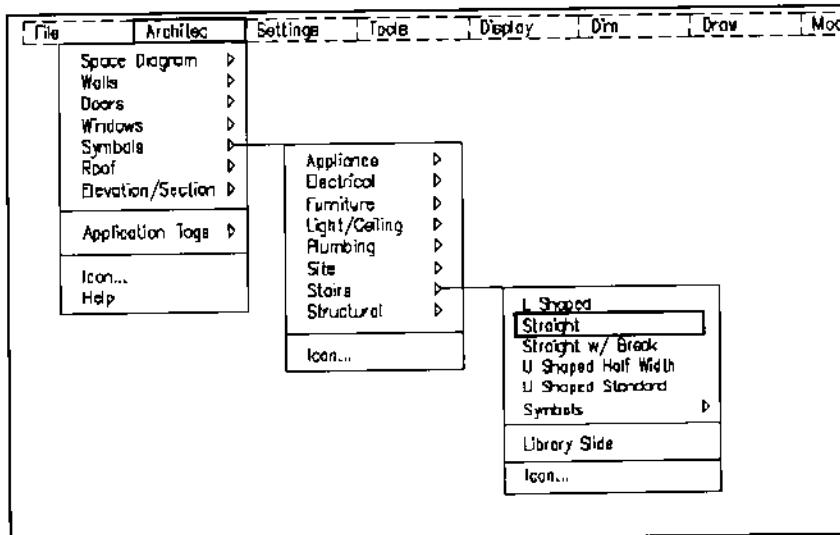
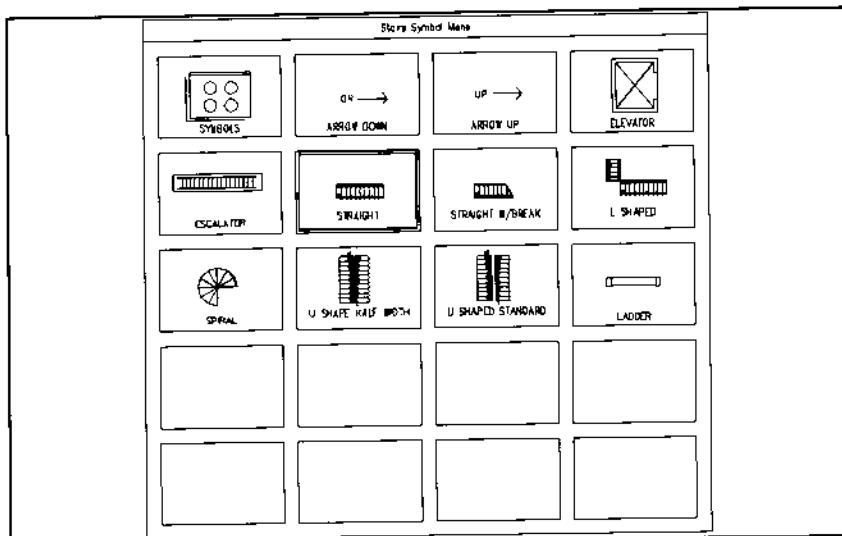
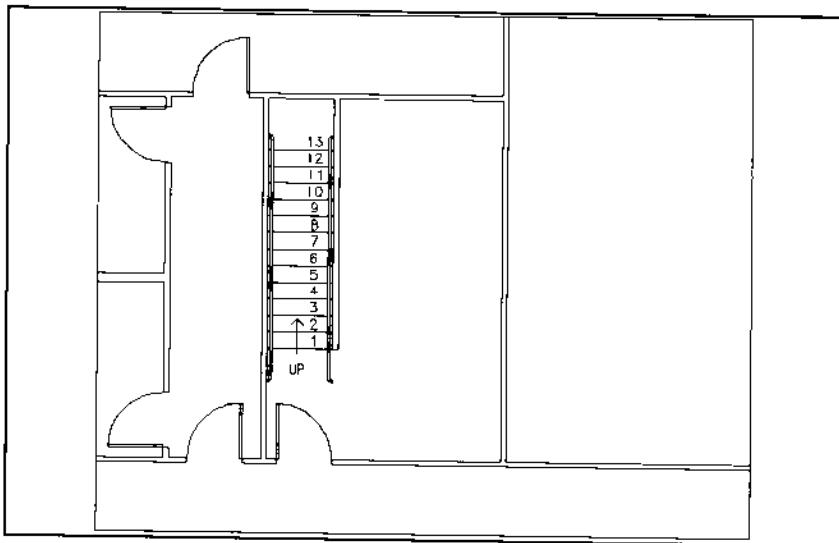

Figure 56.
Figure 57.
Figure 64.
3. To draw a stair, select Symbols from the Architec pull-down menu, then Stairs, then Straight, as shown in Figure 56, or the Stair Symbol Menu, as shown in Figure 57.
9. Complete the stair, as shown in Figure 64, by adding the UP arrow symbol below the first stair tread. Select the UP arrow from the Stair cascading or icon menu shown previously in Figures 56 and 57. Erase the reference line.
- > Pick insertion point:[**select point below the bottom tread, as shown in Figure 64**]